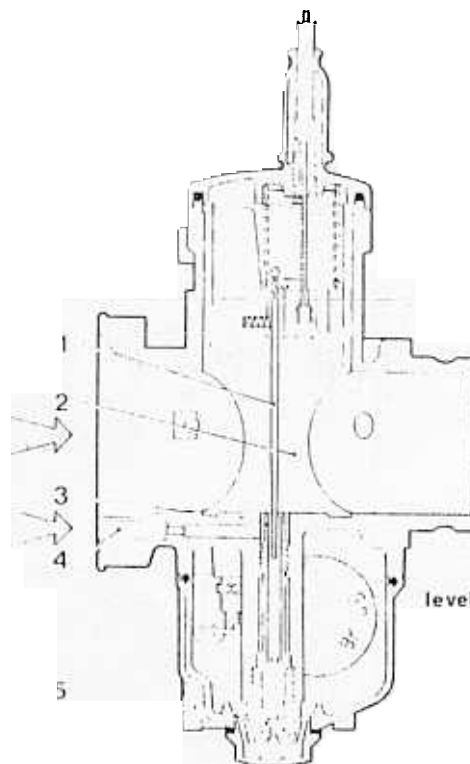

fig. 21
In this situation (figure 21), fuel metered by the main jet (5) and further regulated by the atomiser outlet (3) (the atomiser outlet area varies according to the position of the tapered-needle moving up and down through it) is mixed with air from channel (4) and air from the main barrel (2).